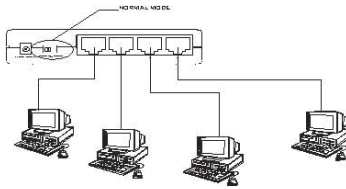

Figure 3. Connecting to Station
- Connect one end of the cable to the 1st port of the hub and the other end to the station, as shown in Figure 3.